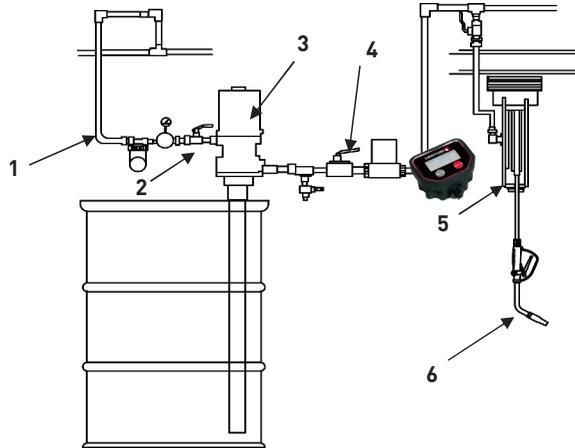

Fig. 2
- Pump: Use a ground wire and clamp as shown in Fig.2. Get rid of the grounding screw, put the end of the grounding wire into the grounding hole. Lock the bolt to the pump safety.